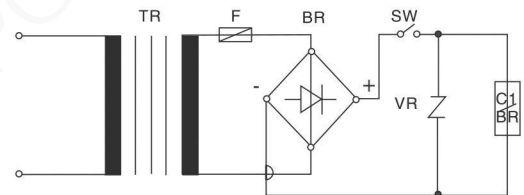

FIG. 3
A. Rapid excitation loop: the armature attracting time and torque setting time can be significantly improved when the electromagnetic clutch is connected in series with the shock resistance and the current and voltage of four times the rated voltage of the electromagnetic clutch are added to the loop instantaneously. (figure 3)